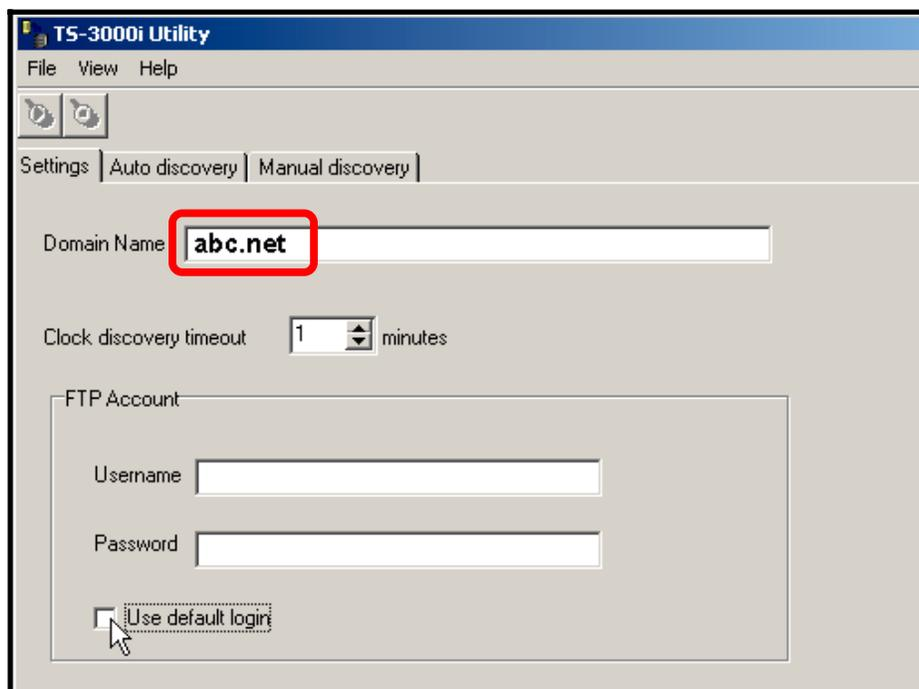

Figure 8-3: Settings
- Step 3.** On the settings tab, change the domain from “local” to the domain name of your network to discover all clocks in your companywide domain (see *Figure 8-3*). For example, the domain name of your companywide network might be “abc.net”.